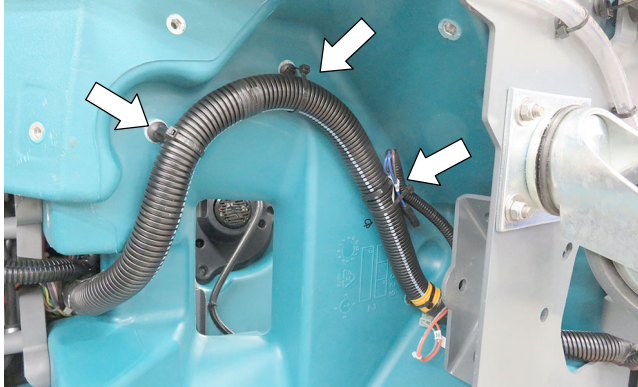

Fig. 3
- Cut the three wire-ties securing the main wire harness (Figure 3). Note: Machine may also be equipped with clamps. Disconnect clamps.